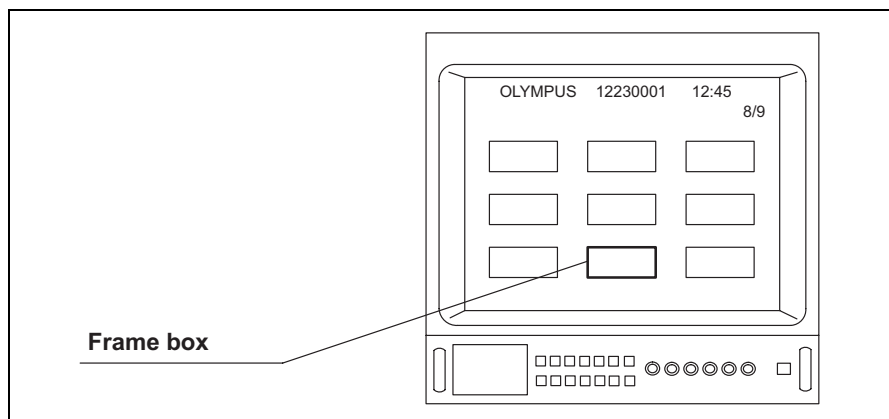

Figure 5.108
2. Depress the menu switches "◀" or "▶", or the "↑/↓/←/→" key on the keyboard quickly to move the frame box to a image that you would like to delete (see Figure 5.108).
Depending upon the images recorded on Memory Card, the menus shown in Figures 5.108, 5.109 and/or 5.110 may appear different from those displayed on the video monitor.